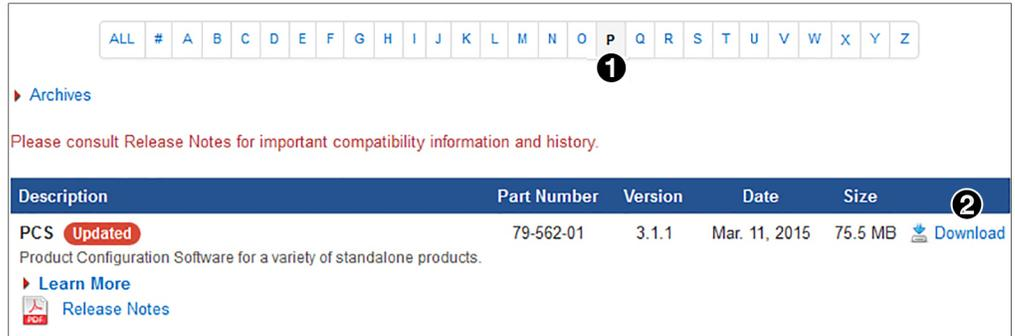

Figure 34. PCS Download Link
3. Click the **P** link (see figure 34, **1**).